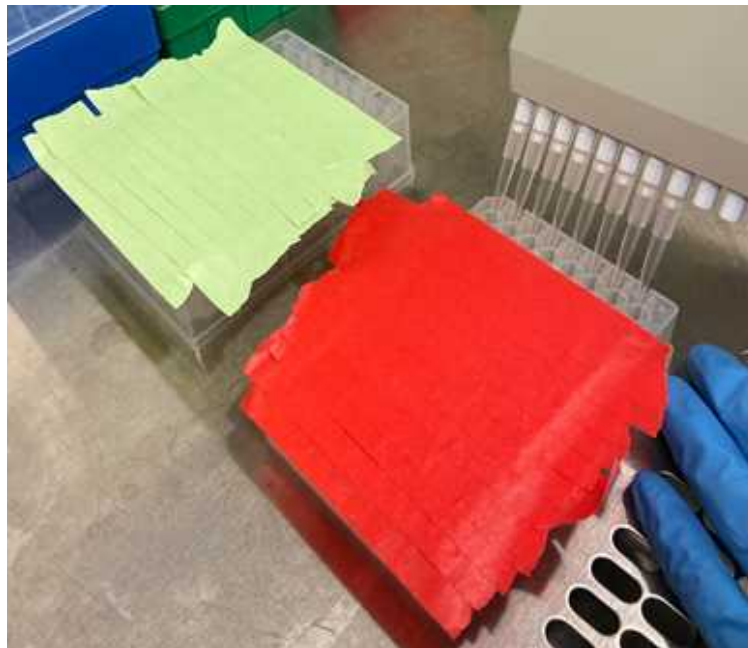

Figure 4. Transferring samples from SSP to SEP using a P300 multichannel pipette.
- Carefully, using a P300 multichannel pipette, transfer **200 µL** from each well of the SSP into each well of the SEP (Figure 4).